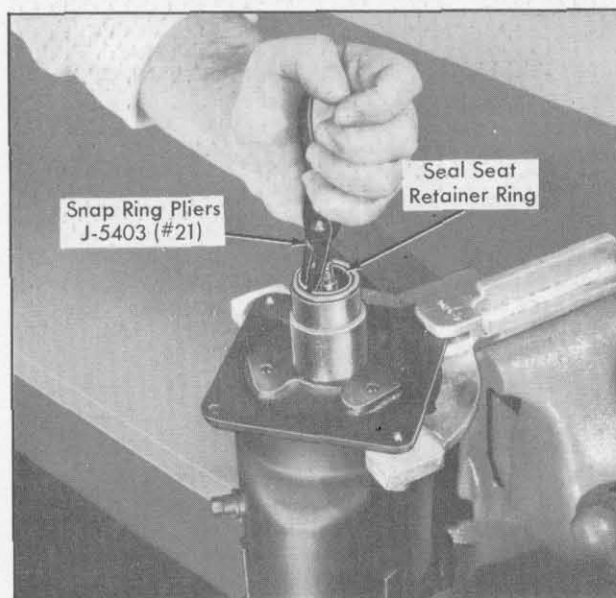

Fig. 1-68 Removing Seal Seat Retainer Ring
3. Remove seal seat retainer ring using Snap Ring Pliers, J-5403 (#21), Fig. 1-68.